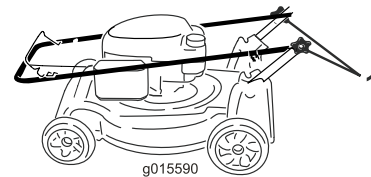

Figure 35
1. Loosen the handle knobs until you can move the handle freely (Figure 35).
1. Handle knob (2)
2. Move the handle forward as shown in Figure 35.